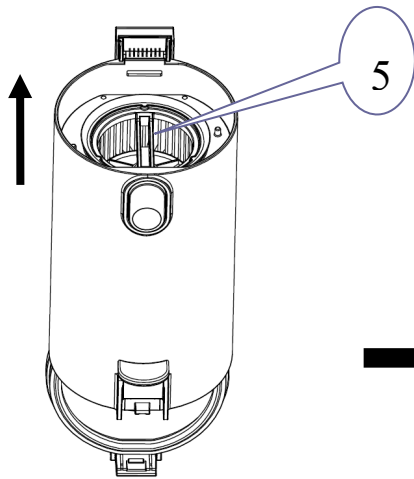
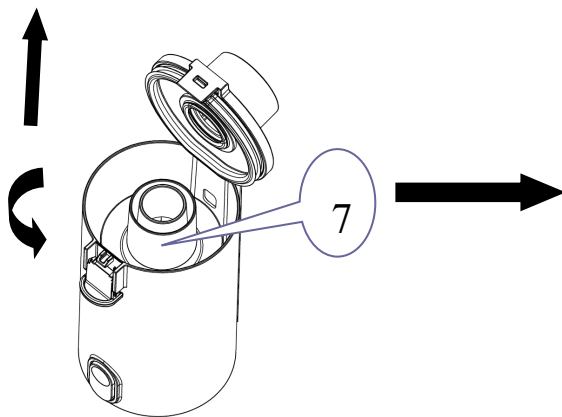

Figure 6-5
Figure 6-7
6.2 Firmly hold the filter bin handle (NO.5) and pull the HEPA filter (NO.6) out of dust cup to empty. Wash the filter (NO.6) under a tap if necessary, then let it dry completely before using. See Figure 6-5 and 6-6.
6.3 Grip the filter screen (NO.7) to rotate counter-clockwise and pull it out of the dust cup. Tap the dirt on the filter screen (NO.7) and dump the dirt from dust cup. Let the filter screen and dust cup dry before re-inserting back. See Figure 6-7 and 6-8.
7.19 Display shows "Filter Blocked"; the filter is blocked. Grip the filter screen and rotate it counterclockwise to pull it out of the dust cup. Tap the dirt on the filter screen and dump the dust out of the dust cup (see figure 6-7 and 6-8). Hold the filter bin handle firmly, pull the HEPA filter out of the dust cup and empty it. If necessary, clean the HEPA filter under the tap, and then let it completely dry before using, as shown in Figures 6-5 and 6-6.